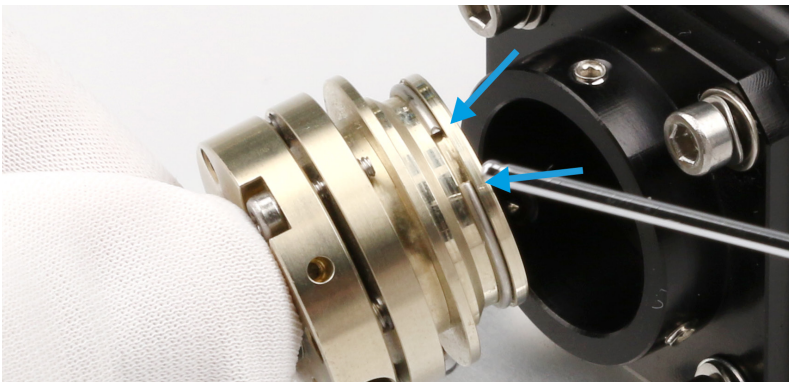

Figure 18:
Locate the three radially arranged tapered pin screws in the adapter flange (Figure 18) and loosen them using the hex screwdriver 50HD-15.
**Attention:** The  $\varnothing$  19.5 mm system mount of the 60SMS laser beam coupler has a steel ring. This steel ring has a gap of approx. 2 mm, see Figure 18. Please make sure that none of the three pin screw is located in the gap of the steel ring. Otherwise the connection in between the adapter and the laser beam coupler and therefore the alignment is not long-term stable.